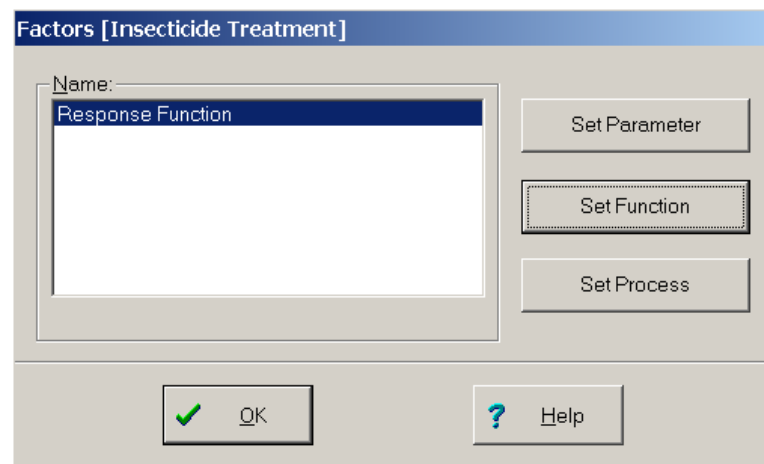

Figure 9-4 The “Factors” window for the Event module
11. Select the “**Factors**” button to obtain the “**Factors**” window (Figure 9-4)